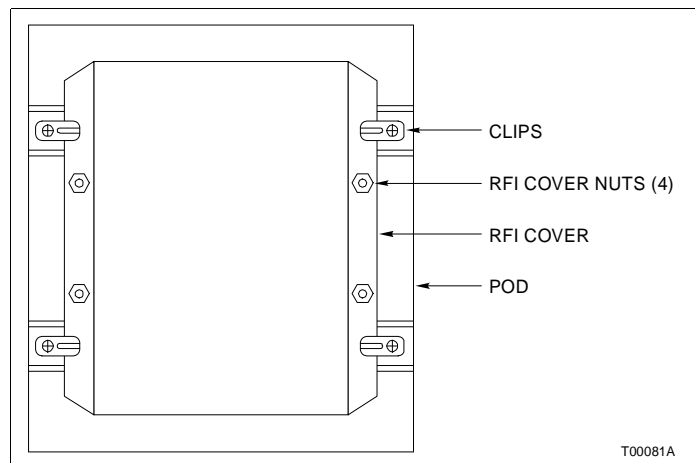

Figure PR69-2. ADP
- 6. Rotate the four clips that hold the ADP or blank plate into the pod. It might be necessary to loosen the clip mounting screws (Fig. PR69-2).